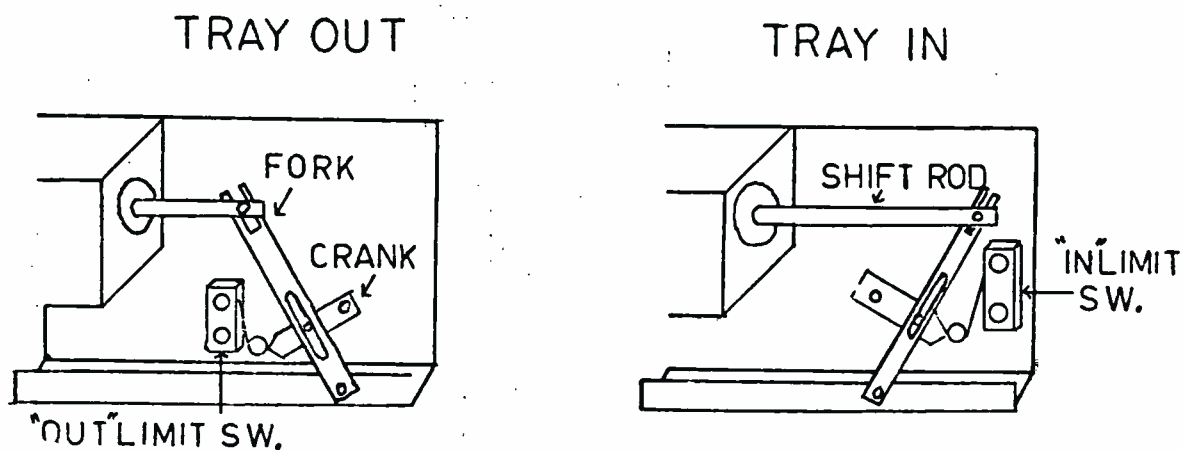

Fig. 3
9. Refer to Carousel Service Manual and check the adjustment of the IN Limit and OUT Limit switches. The motor driven crank should be at right angles with the fork lever when the switch stops the motor both moving the tray out and moving the tray in. If necessary, adjust the respective micro-switch by loosening slightly the screw with the nut. Tilt the micro-switch closer to the motor to make the shift fork at right angles to the crank when the motor stops. See Figure 3.